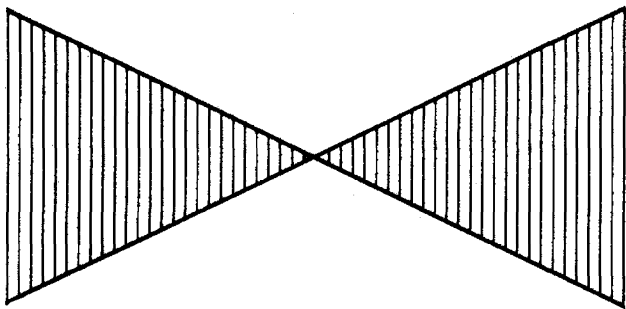

Figure 6-9.
7. Reset CARRIER LEVEL for the waveform shown in Fig. 6-9 (double sideband, suppressed carrier).